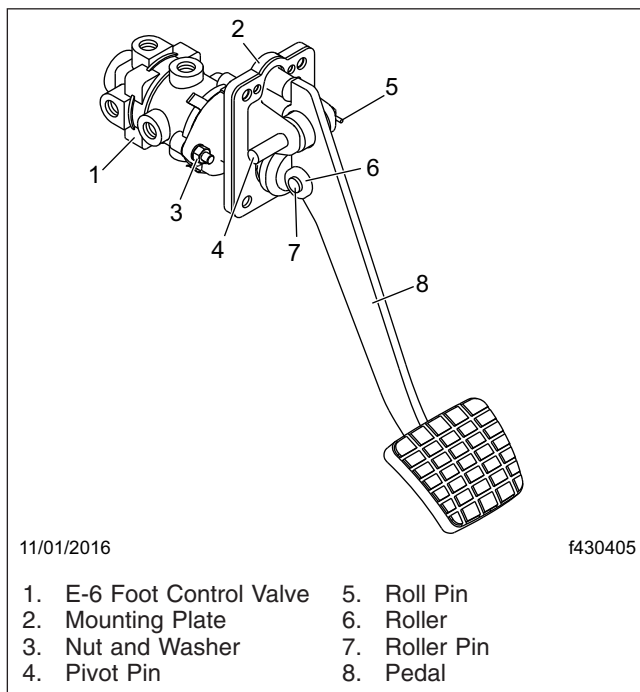

Fig. 10, Brake Pedal and Valve Assembly
2. Remove the roll pin from the brake pedal pivot pin. See **Fig. 10**.